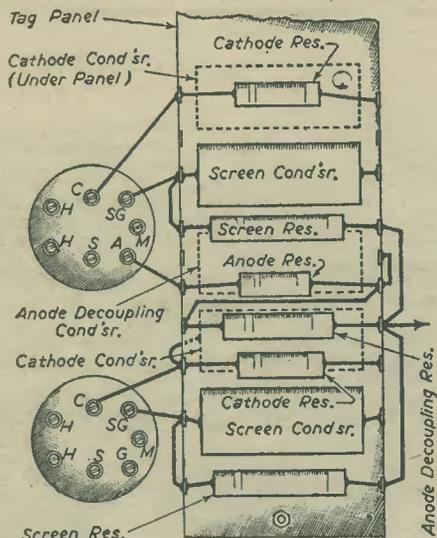

Fig. 1.—Portion of an actual receiver. Only connections to and between tag-board components are shown.
**S**UPERFICIAL examination of a modern wireless set alongside another 10 to 15 years old will reveal a number of differences, perhaps the most striking being the change over that has taken place from the old method of hanging small components on their own connecting leads, to the modern workmanlike method of arranging these small components in a symmetrical manner on tag boards. This tag-board technique is illustrated at Fig. 1, which shows a small portion of a straight A.C. mains receiver, namely the R.F. amplifier and detector valveholder and the associated portion of tag board. Fig. 2 is not taken
from an actual receiver, but is a suggested rearrangement of the components shown in Fig. 1, using the old method of layout. It will be noted that in the illustrations no detector grid leak and condenser are shown as these are in the anode coil can. Only wires connecting tag-board components are shown.
There can be no question that the modern arrangement is the more workmanlike of the two from the appearance point of view, and often more convenient for the service engineer, provided that all components are mounted on top of the tag board or that the latter is mounted edgewise up; some manufacturers mount components under the tag board, which besides rendering them inaccessible, makes it difficult to trace connections unless the tag board is high enough from the chassis to permit the use of an inspection mirror. The mechanical advantages having been duly admitted, the question is open to debate whether tag-board assemblies are electrically superior or inferior to the old method. Comparison between Fig. 1 and Fig. 2 makes a most interesting study, and tends to suggest that tag boards can easily be a retrograde step from the efficiency point of view; however useful they may be from the economic and appearance point of view, the chief objection is the long leads between components and valveholders.
leads and is essential on the input leads, as shown in Fig. 1.